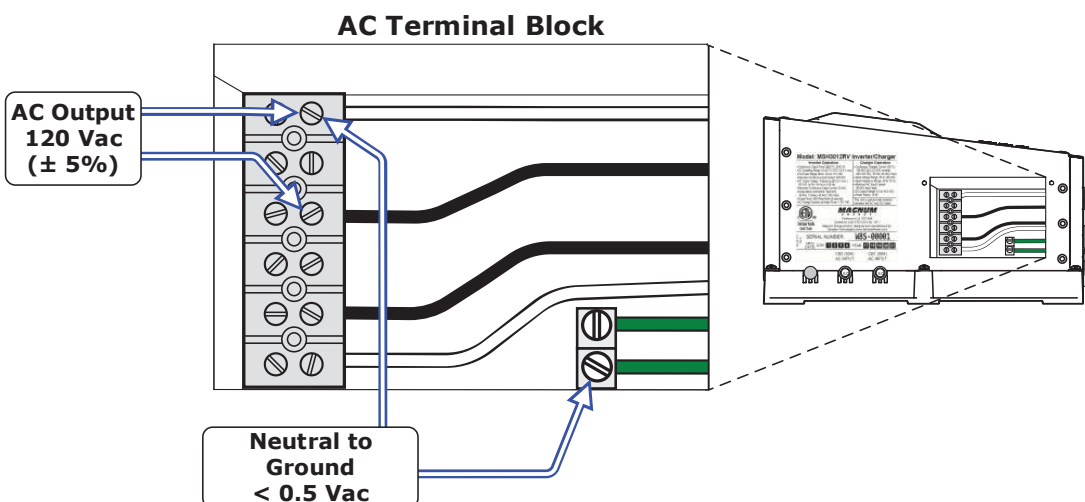

Figure 2-18, AC Voltage Checks
5. Check the AC output voltage of the inverter by connecting an AC voltmeter to the output terminals as shown in Figure 2-18 (verify the correct output voltages).